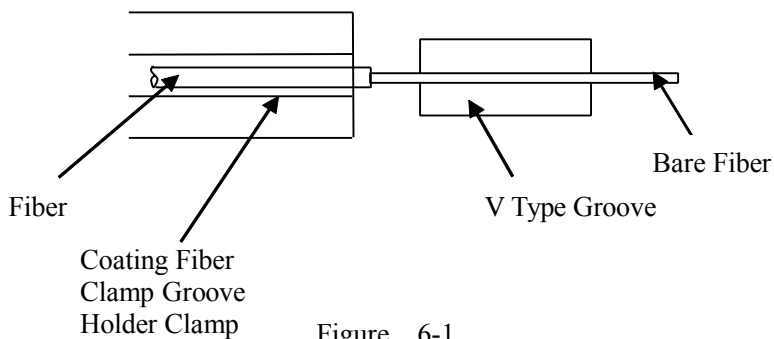

Figure 6-1
- c) Power on the OFFS, and fix the fibers following figure 6-1 and figure 2-2. The cleave length of bare fiber should be 10mm ~ 16mm, and the bare fiber should be put in the V type groove, Cladding Fiber Holder Clamp hold down the fiber. The fiber will be seen in the middle of the screen, don't overlap.